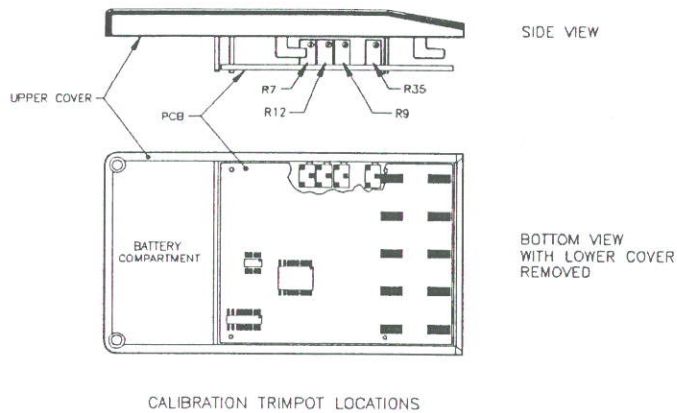

Figure 1: Trimmer Potentiometer Locations
7. Compare the readings between the voltmeter and the milliammeter. Refer to Figure 1 for trimmer potentiometer locations. Adjust R35 until both meters indicate the same value.
7. Compare the readings between the voltmeter and the milliammeter. Refer to figure 1 for trimmer potentiometer locations. Adjust R35 until both meters indicate the same value.